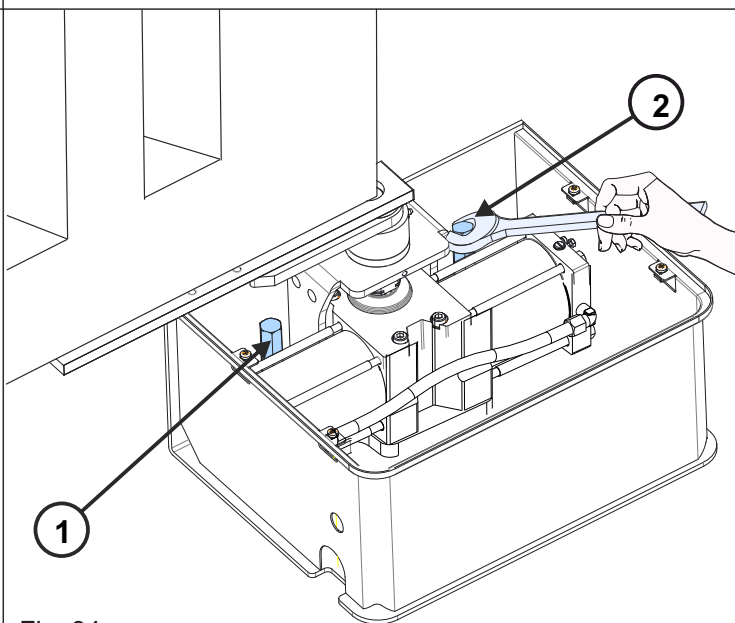

Fig. 34
- 8.4.** Secure the operator by acting on the screws «1» and «2» as shown in Fig. 34